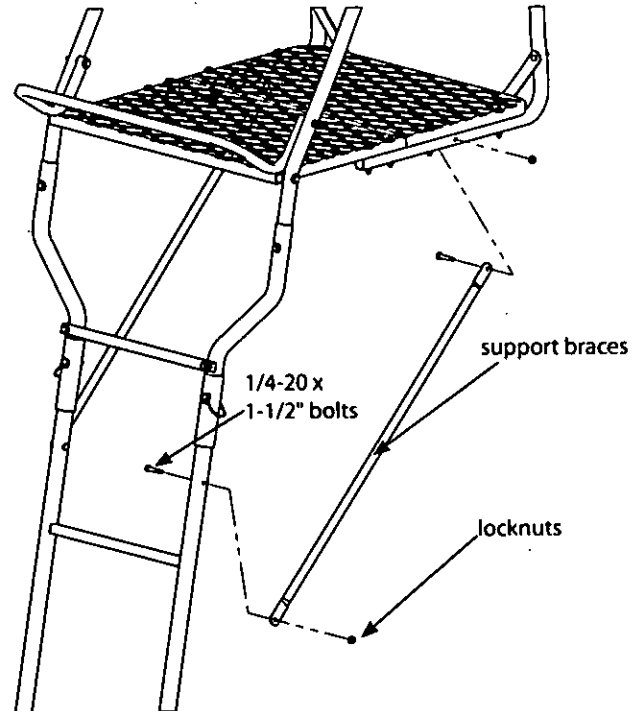

Figure 12
17. Attach the (2) support braces (410024) to the inside of platform support rails and outside of top ladder section w/ mounting holes using (4) provided 1/4-20 x 1-1/2" bolts and locknuts. **SEE FIGURE 12.** Tighten securely. Be sure not to over tighten or crush tubing when tightening!